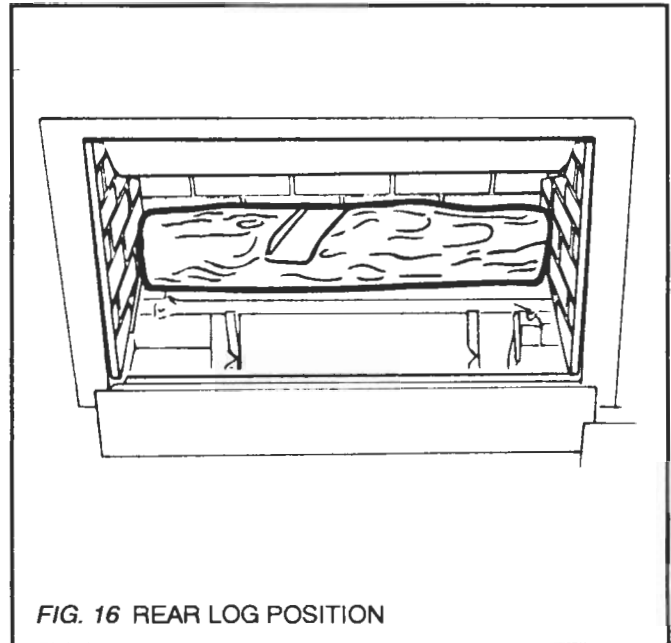

FIG. 16 REAR LOG POSITION
12.3. Place the rear log (the log without a branch) in the retaining cradle behind the rear burner tube with its back against the back wall (fig. 16). Center the log so that the gap to the side wall is the same at each side.